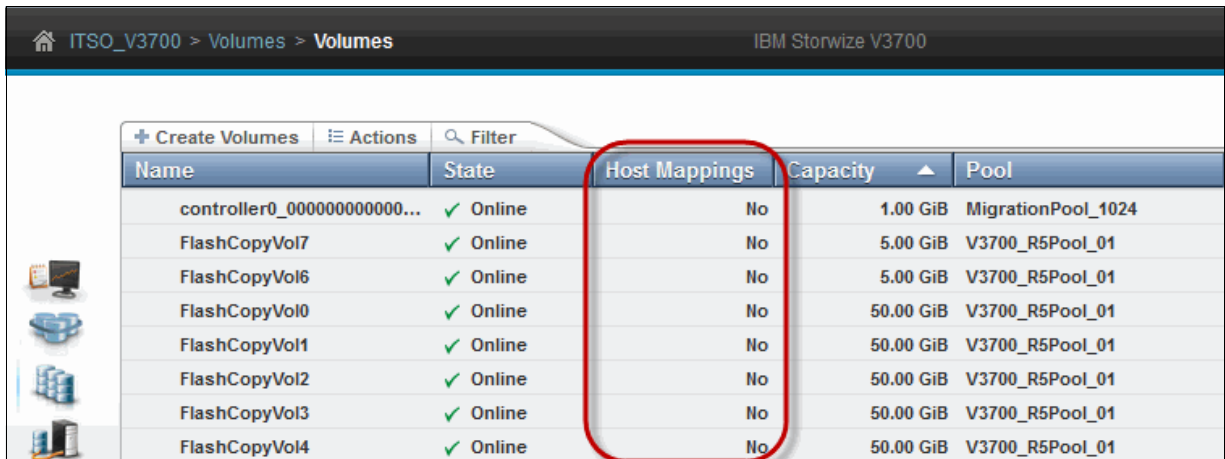

Figure 3-18 Reordering column headings
- Figure 3-18 shows the result of dragging the column heading Host Mappings to the new location.